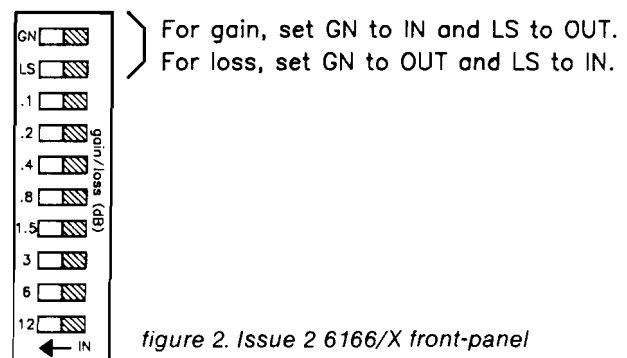

figure 2. Issue 2 6166/X front-panel level switch detail
1.05 When adjusting receive and transmit transmission levels on the Issue 2 6166/X module, please disregard the information concerning the *rcv gn/ls* switch in paragraph 3.20, step D, and the *xmt gn/ls* switch in paragraph 3.21, step D. Instead, select gain or loss for each channel as follows (see figure 2 of this addendum):